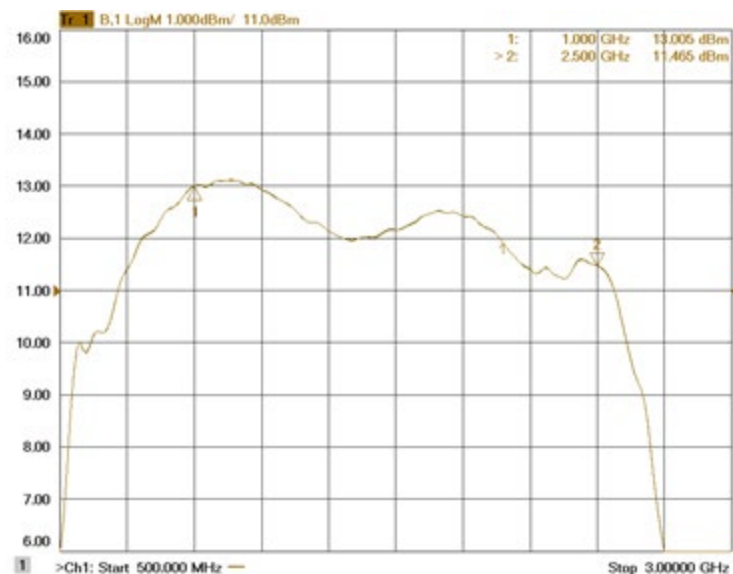

Figure 4-2. Typical Response: Input A3–Front Panel RF Output
- Remove the coaxial cable from the output of the A2 Driver Amplifier to the input of the A3 Four-Way Splitter. The typical response from the input of the A3 Four-Way Splitter to the RF OUTPUT connector on the unit's front panel is shown in Figure 4-2.